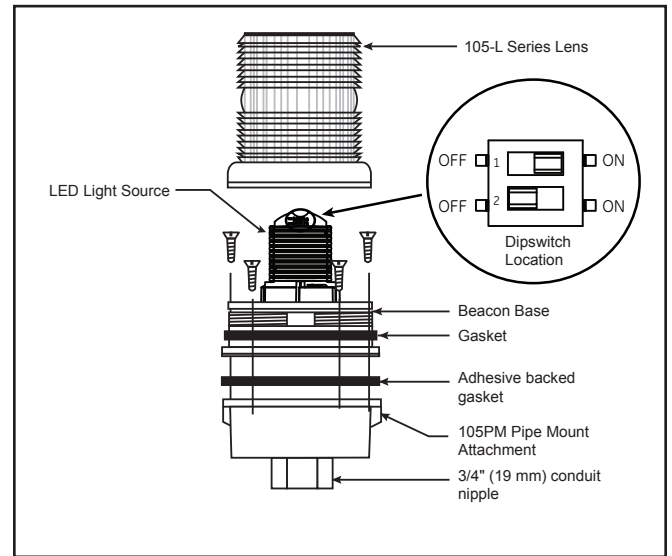

Figure 2. Securing the Beacon to the Mounting Attachment
5. The 105XBRM Series Visual Indicator is supplied with a default setting of steady-on. If 65 fpm pattern is desired, set dipswitch as shown in Figures 2 & 4.